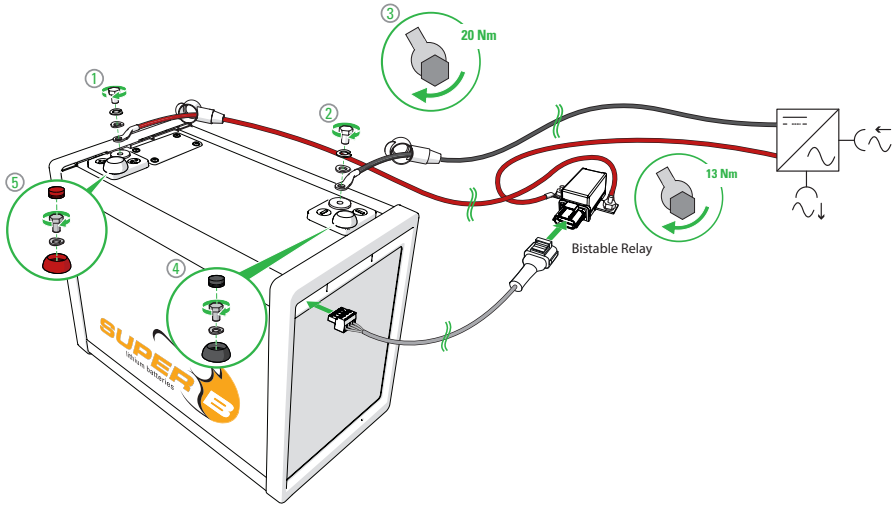

Figure 10. Securing the terminal covers
4. Connect the - terminal of the battery. Do not connect the - terminal first as this may lead to short circuits (Figure 10).
6. Place the terminal covers over the terminals (see figure 10).